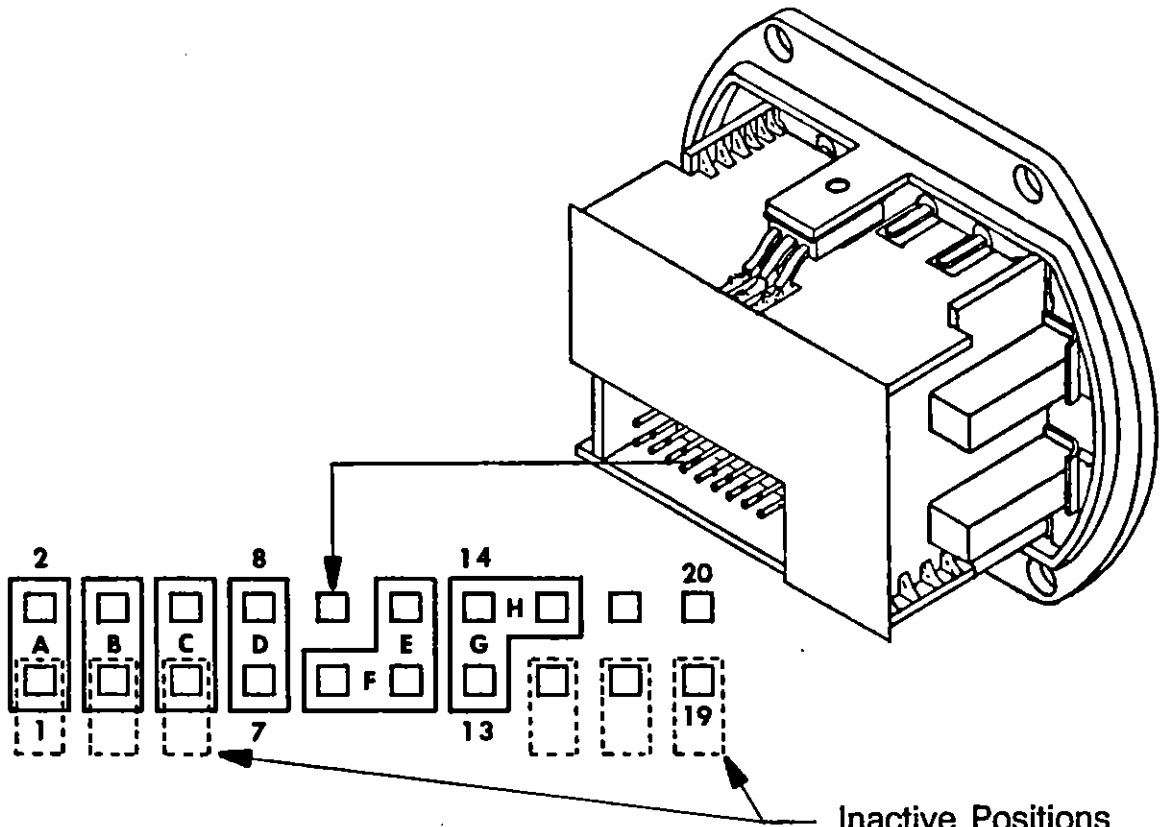

Figure 5-3 Jumper Diagram for Storage
5. Refer to Table 5-2 for temperature ranges or Table 5-3 for ohm ranges obtained with Zero and Span jumpers. Turn the 501 so that the jumper pin-forest is in view (Figure 5-3), and place the push-on jumpers in the positions chosen to yield the desired Zero and Span ranges.
NOTE: Store the unused jumpers between the bottom connector pins and the printed-circuit board as shown in Figure 5-3.